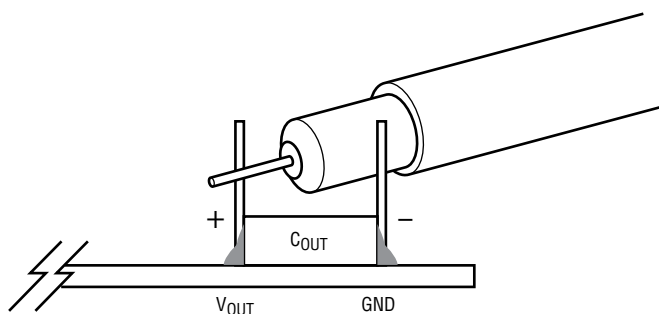

Figure 2. Scope Probe Placement for Measuring Input or Output Voltage Ripples
5. Once the input and output voltages are properly established, adjust the input voltage between 3.1V to 17V and the load current within the operating range of 0A to 3.5A max per channel. Observe the output voltage regulation, output voltage ripples, switch node waveform, load transient response and other parameters. Refer to Figure 2 for proper output voltage ripple measurement.
Note 1: To measure the input/output voltage ripples properly, do not use the long ground lead on the oscilloscope probe. See Figure 2 for the proper scope probe technique. Short, still leads need to be soldered to the (+) and (-) terminals of an input or output capacitor. The probe's ground ring needs to touch the (-) lead and the probe tip needs to touch the (+) lead.